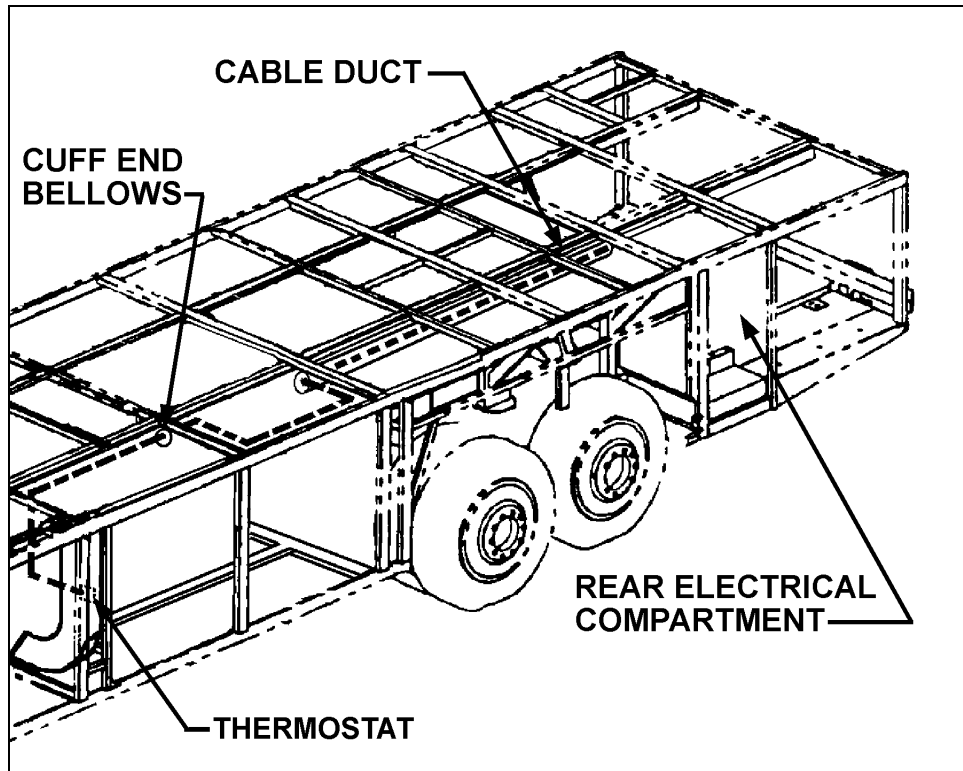

FIGURE 9 : CABLE ASSEMBLY 064750 CABLE ROUTING
- Starting from rear electrical compartment, route cable assembly (Prévost #064750) through cuff end bellows then through cable duct located above wheel housing (refer to fig. 9). Secure cable assembly inside rear baggage compartment, route cable assembly through cuff end bellows then inside HVAC compartment up to the thermostat. Disconnect connector from thermostat, connect cable assembly C151 connector with connector that was installed onto the thermostat, also connect cable assembly C550 connector with thermostat located inside HVAC compartment. Secure cable assembly using cable ties.